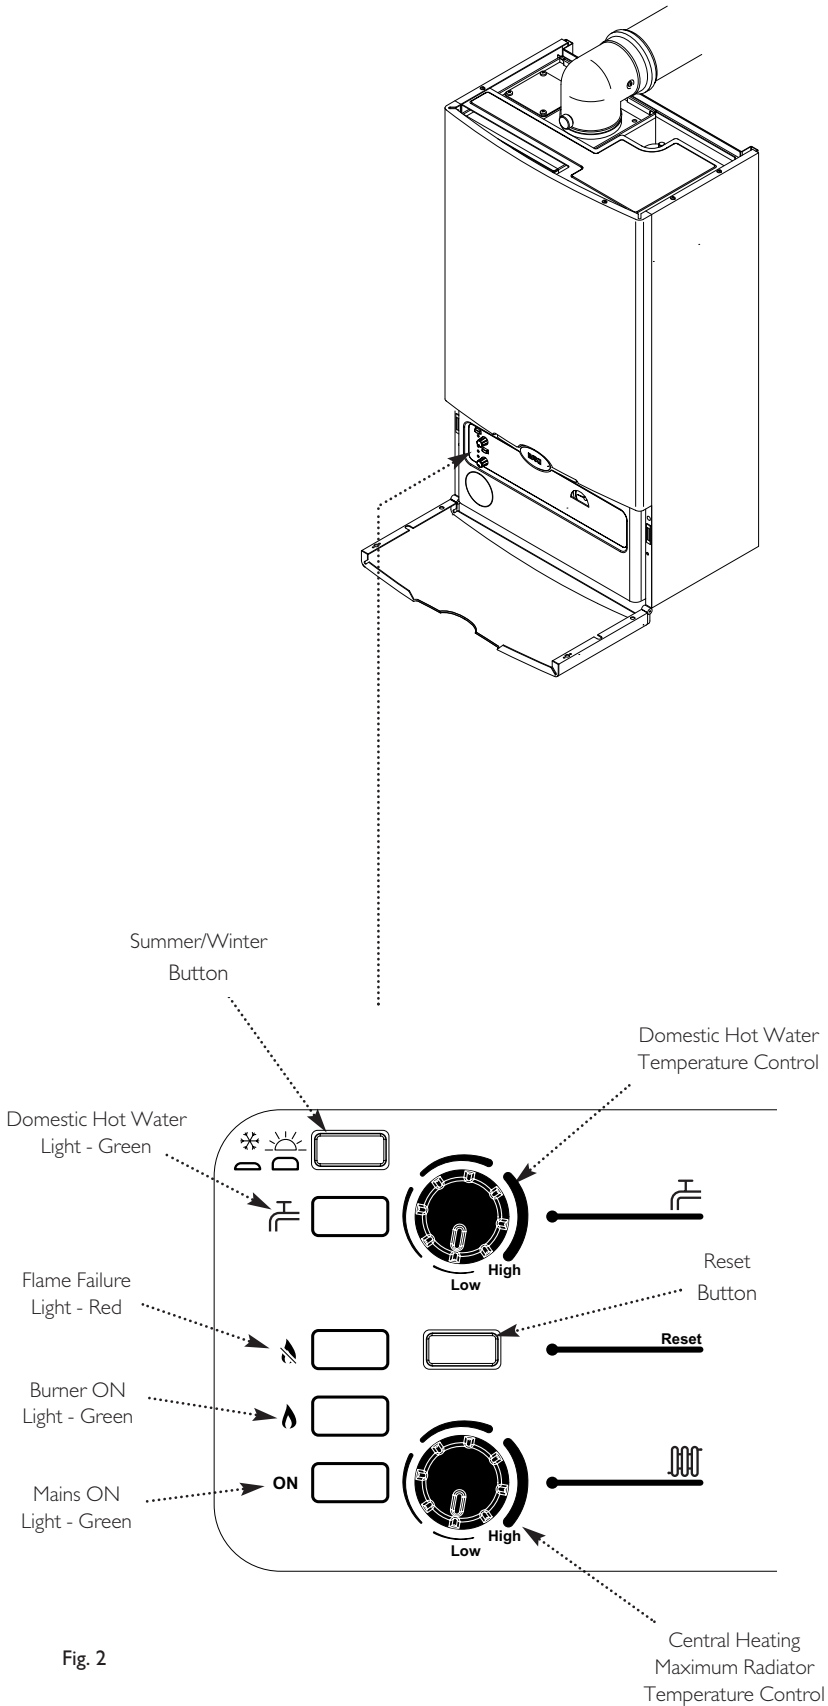

Fig. 2
1. However, in the case of the elderly, infirm or very young, a lower radiator surface temperature may be desirable. If so, the central heating flow temperature can be adjusted between approx 55 °C minimum and approx 82 °C maximum by turning the Central Heating Maximum Radiator Temperature Control Knob (Fig. 2).
2. The boiler will light automatically on demand and the Green 'Burner ON' light will be lit whilst water is being heated (Fig. 2).
1. The temperature of the domestic hot water can be adjusted between approx 45 °C minimum and approx 55 °C maximum by turning the Domestic Hot Water Temperature Control Knob (Fig. 2).
2. The boiler will light automatically on demand. The Green 'Domestic Hot Water ON' light will be lit from the tap being opened until the tap is shut and water has been heated to the set temperature. The Green 'Burner ON' light will be lit whilst water is being heated. (Fig. 2).
Winter setting (Button In) - central heating will operate on demand or the hot water will be provided when a tap or shower is turned on (Fig. 2).